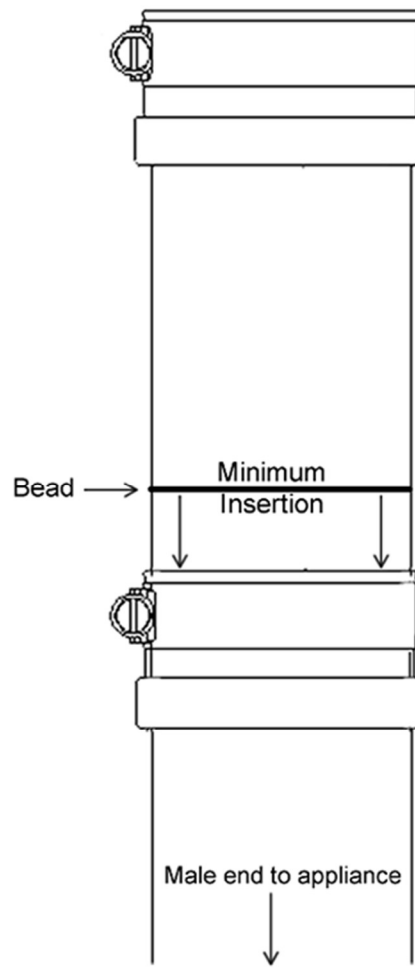

Figure 2
1. Insert the male end into the female section. Push the units together and turn them until half of the bead on the male end is covered by the flared edge of the female end. (*see Figure 2*). This creates the needed airtight seal for Category II, III or IV appliances. Align the seams on the vent lengths and orient them upward in all horizontal applications.